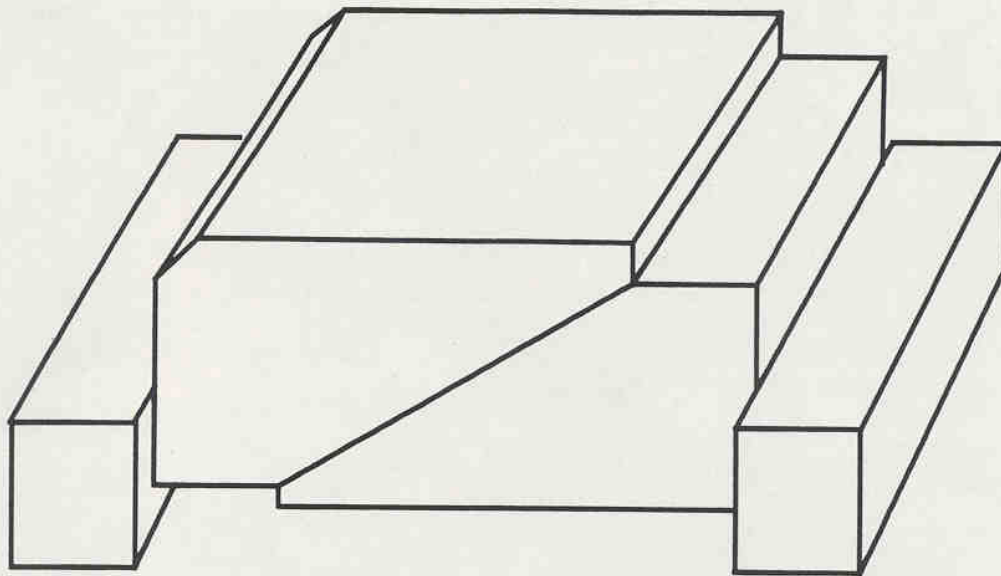

Fig. 2 Positioning of steel blocks and end stops
- (vi) Place the assembly in such a manner that the position of the blocks relative to one another is maintained. (see Fig 2)